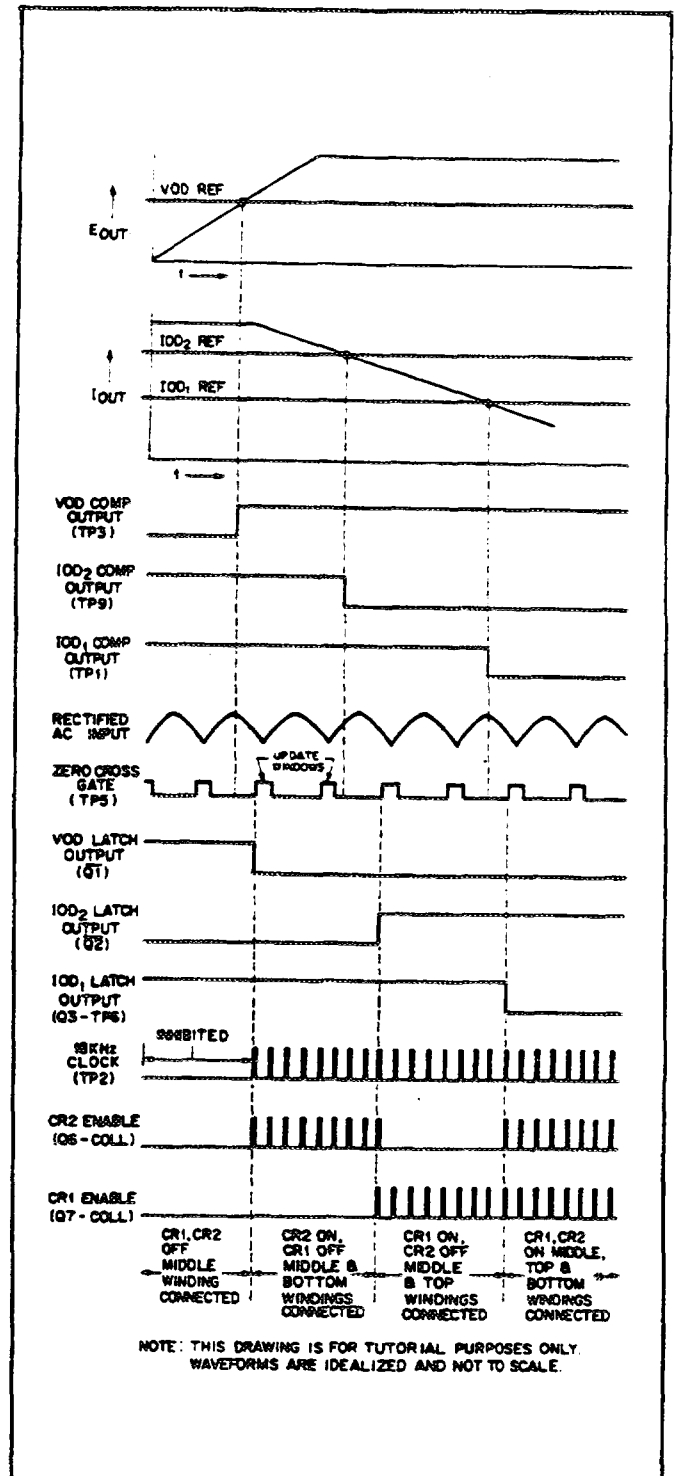

Figure 4-4. Control Logic Waveforms for Various Output Conditions
**4-27** Figure 4-4 shows the control logic waveforms associated with each of the four basic operating conditions discussed previously (paragraphs 4-9 through 4-11). During the first time period (starting at  $t = 0$ ) the output voltage sample is less than the VOD reference voltage at pin 5 of U3 and the output of the comparator is low (approximately  common). The output of the VOD latch ( $\overline{Q1}$  side of flip-flop 1) is high (approximately +5V) causing Q12 to conduct and clamp the clock line low. With the clock line held low, the output of the U4 NAND gates (pins 10 and 11) are maintained at a high level and no firing pulse can be generated regardless of the condition of the IOD inputs to the gates. As indicated on Figure 4-4, both triacs are off at this time and only the middle winding is connected to rectifiers U1 and U2.
4-29 Note that at sometime after the maximum ( $90^\circ$ ) point of each half cycle the triacs will cut off because the voltage across them is not sufficient to maintain conduction. The triacs remain cutoff through zero crossing and well into the next half-cycle until their minimum firing potential is exceeded. The first firing pulse that is received after this time will fire the triac(s) and the remaining pulses, received during the rest of the half cycle, will have no effect. The zero crossing detector U4, ensures that the firing decisions are always updated near the zero crossing point of the ac line, while the triacs are cutoff. As shown on Figure 4-4, the three decision latches cannot change state until the leading edge of the zero cross gate (TP5) is generated, even though the associated comparator may have changed state earlier in the half cycle.
4-30 Time period three in the example of Figure 4-4, is initiated when the output current falls below the  $IOD_2$  reference point. The output of the  $IOD_2$  comparator switches low at this time and at the next zero crossing point, the  $IOD_2$  latch is switched to its reset state ( $\overline{Q2}$  output goes high). The condition of the triacs during time slot three is the exact reverse of the conditions during time slot two; with CR1 conducting and CR2 off.